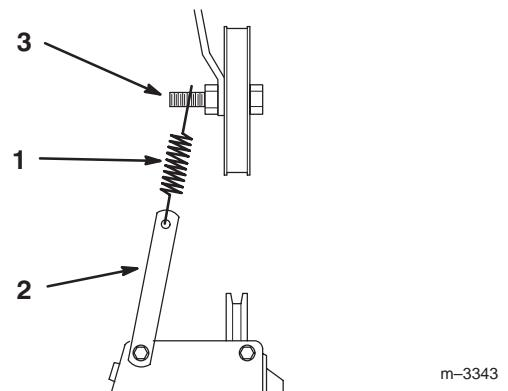

Figure 9
3. Hook spring into plate on gearbox and stretch to idler mounting bolt, placing tension on belt (Fig. 9).